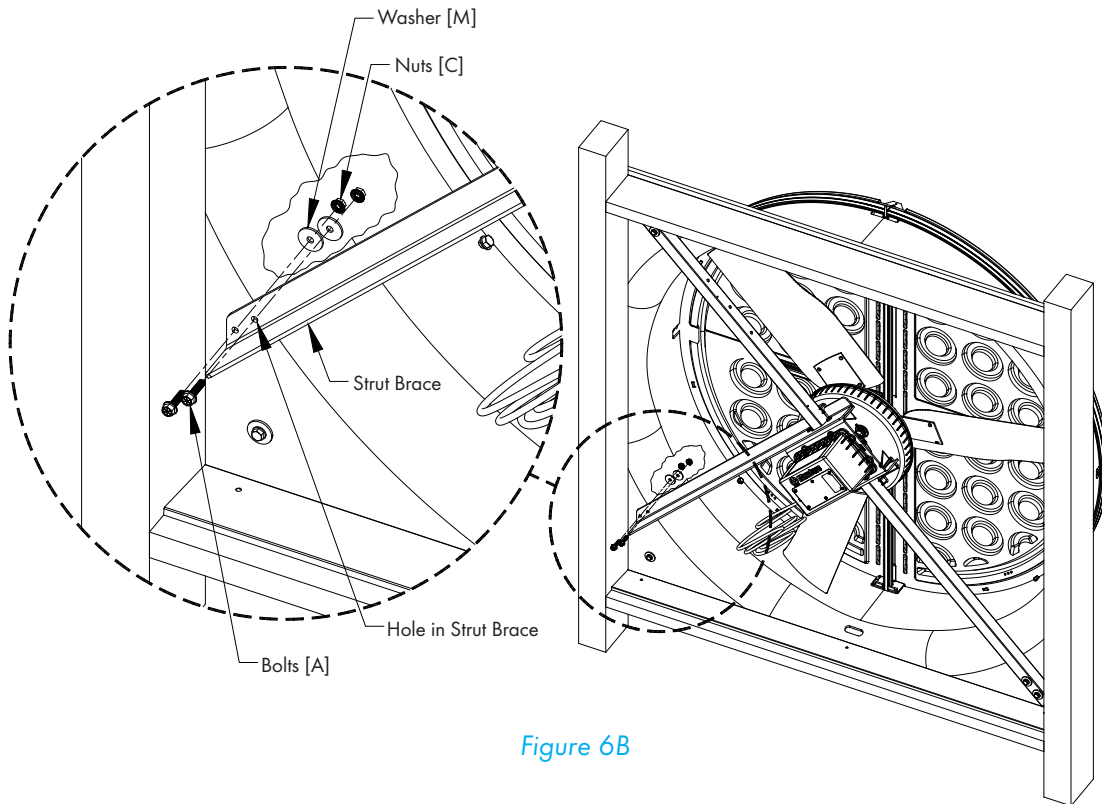

Figure 6B
Where the bottom of the Strut Brace meets the Orifice Panel, use the 2 holes in the Strut Brace as a guide and drill (2)  $\frac{5}{16}$ " holes through the fiberglass Orifice Panel. Secure Strut Brace to Orifice Panel using (2) Bolts [A], Washers [M] and Nuts [C]. See Figure 6B.